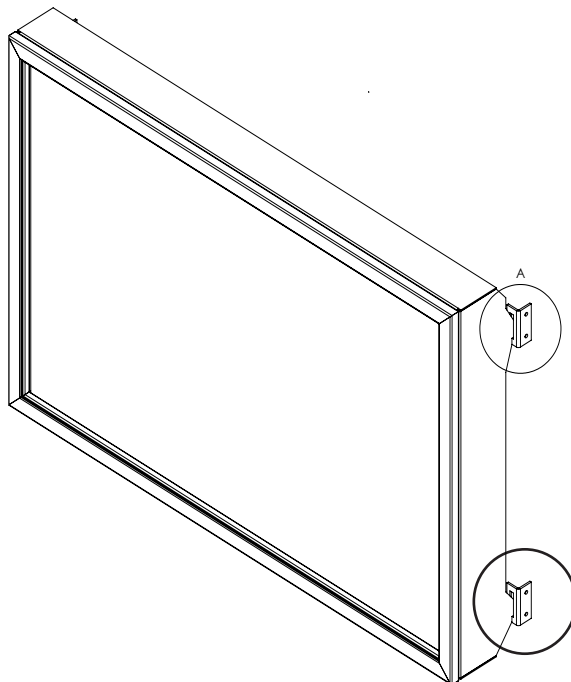

Figure 56: Installing Safety Screen onto Cabinet Bracket (Parts removed for clarity)
2. Lift the face upright in front of the fireplace with the four (4) hooks pointing towards the fireplace. Slide the hooks into the corresponding brackets on each side of the cabinet (see Figure 56). Ensure the hooks are secure before releasing the safety screen.